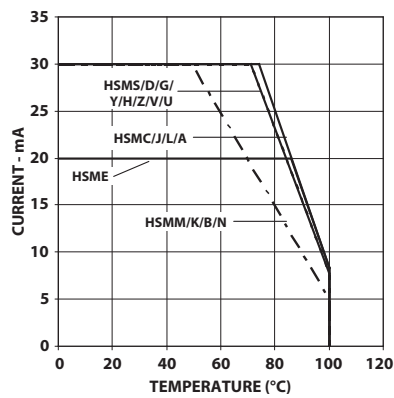

Figure 4. Maximum forward current vs. ambient temperature. Derated based on $T_{jMAX} = 110^{\circ}C$, $R\theta_{jA} = 500^{\circ}C/W$.
1. Derate linearly as shown in Figure 4.